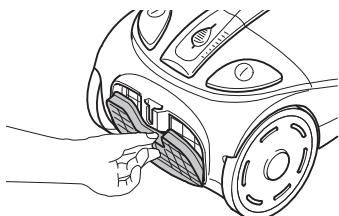

Fig. 26
3. Remove the blow-out filter (Fig. 26).